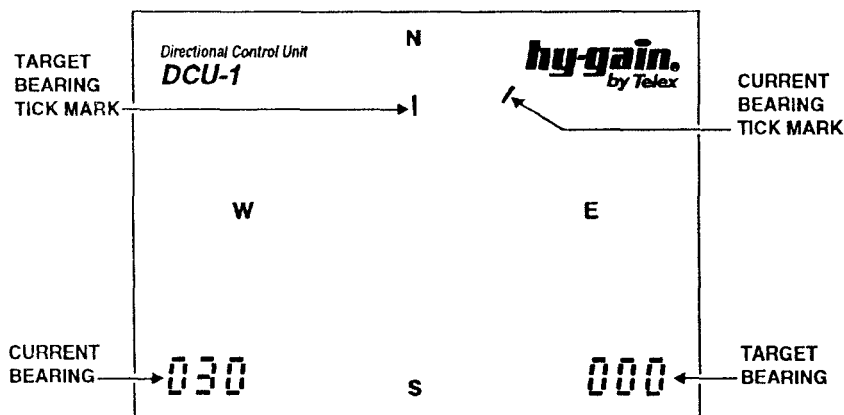

Figure 7 DCU-1 Display 1-10
5. The DCU-1 display should look similar to the display shown in Figure 7. The numeric display in the lower left corner indicates the current bearing of your rotator. The numeric display in the lower right corner indicates the target bearing. If both displays read a steady "000", disconnect your control cable and check the cable wiring with an ohmmeter.